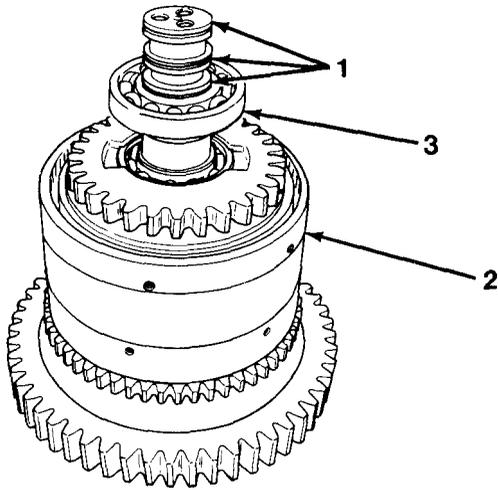

Figure 11-1
1. Remove three seal rings (1) from clutch shaft assembly (2, Figure 11-1).
2. Using a puller, remove bearing (3) from clutch shaft assembly (2).